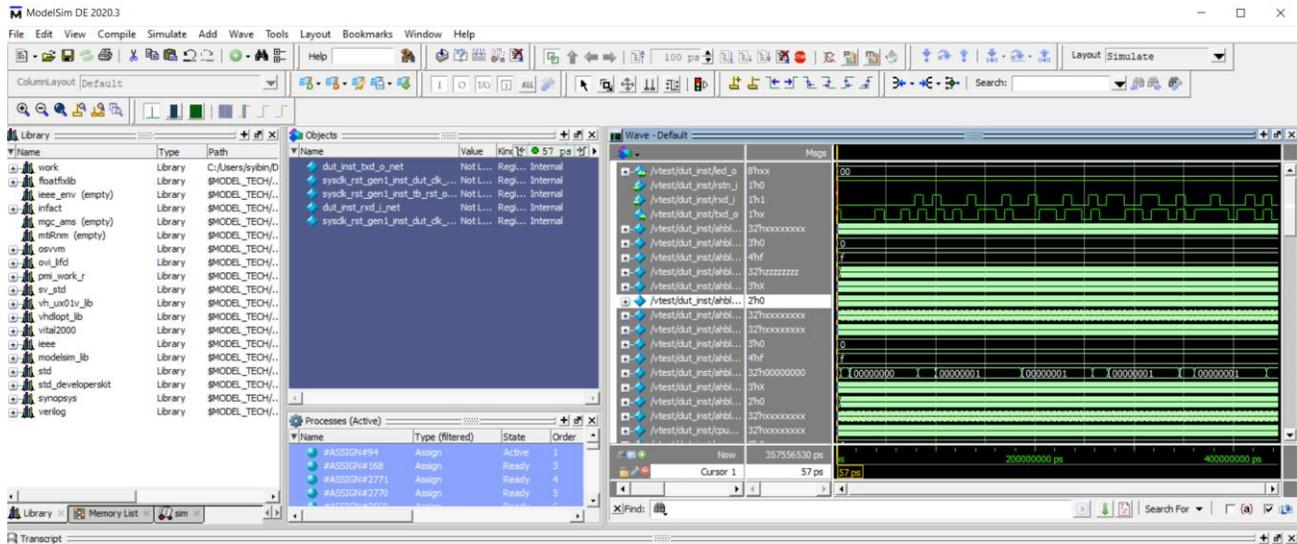

Figure 2.61. Simulation GUI
2. The default simulation tool, ModelSim, OEM version, opens (Figure 2.61).